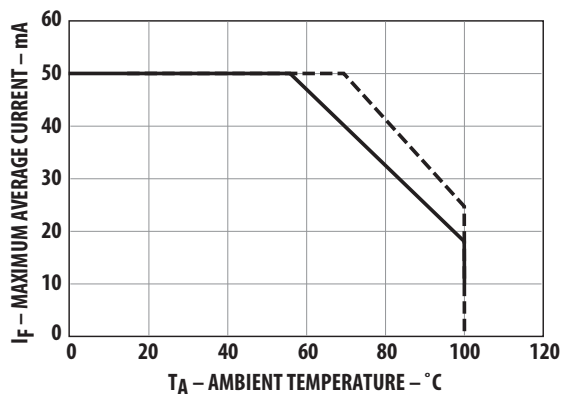

Figure 1. Maximum forward current vs. ambient temperature. Derating based on  $T_{JMAX} = 130^{\circ}\text{C}$ .
- Derate linearly as shown in Figure 1.